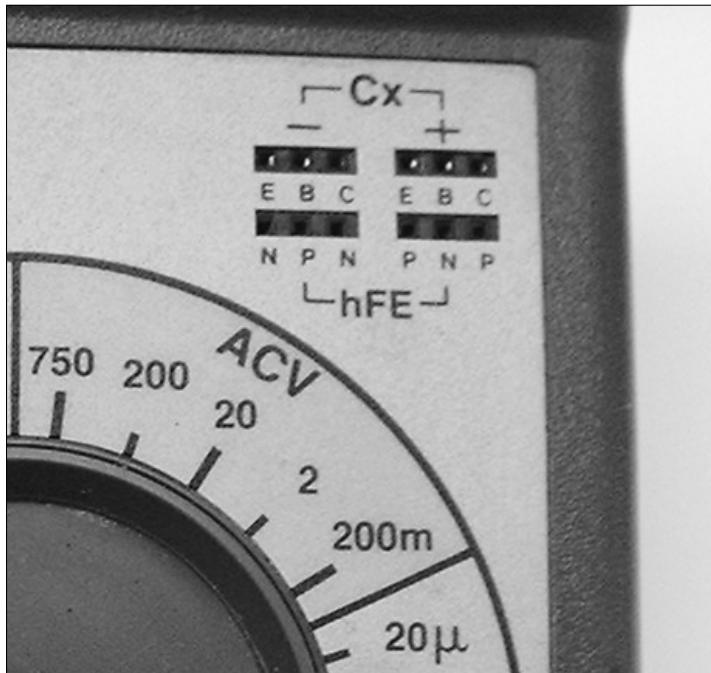

Figure 9-4:
- ✓ **Test lead inputs:** At a minimum, the multimeter has a + (positive) and – (negative or common) lead input. You insert the test leads into these inputs. Some meters have additional inputs for high current testing (usually marked A, for amperage) and special sockets for testing transistors and capacitors, as you can see in Figure 9-4. *Note:* Many small, pocket multimeters have the leads permanently attached.